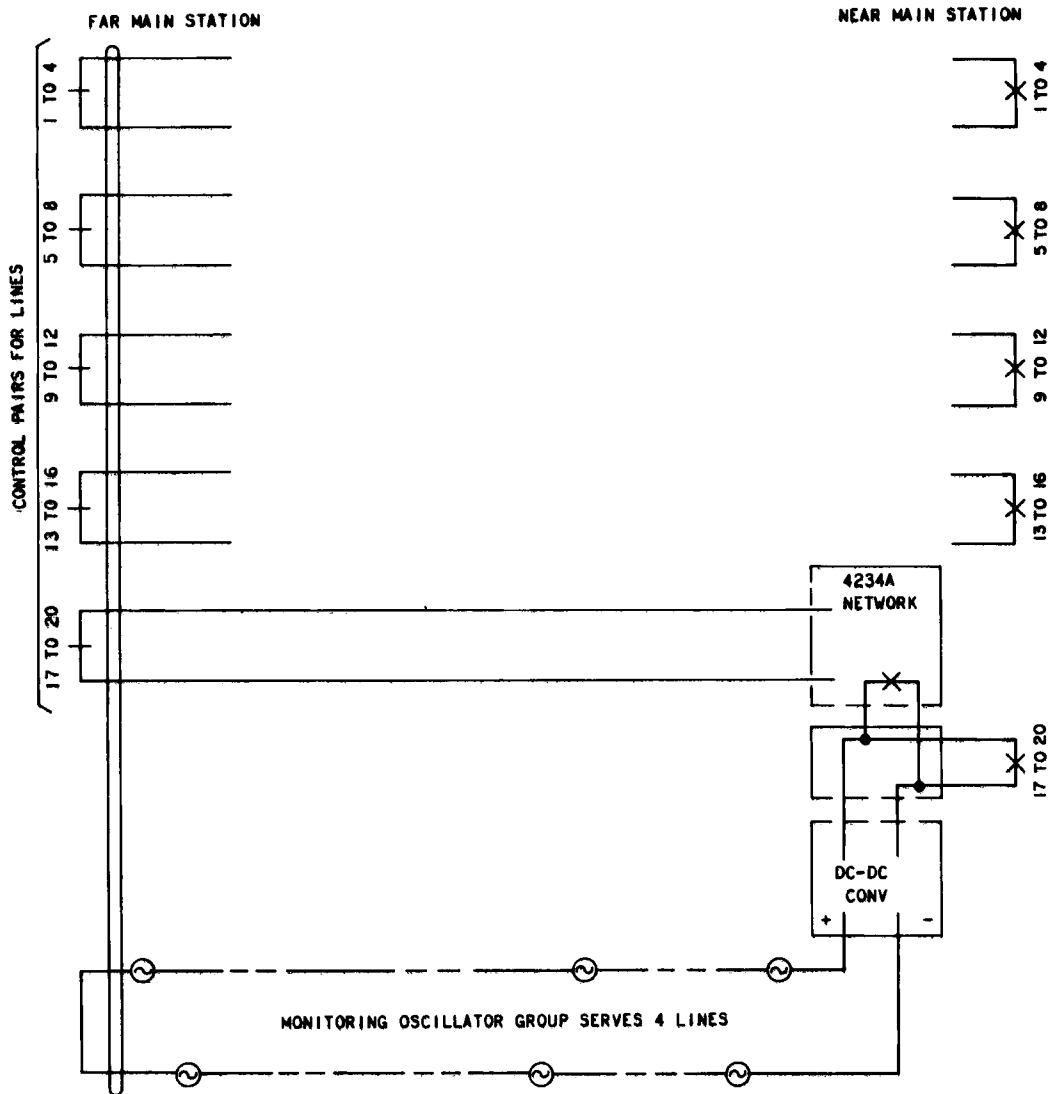

Fig. 4—Monitoring Oscillator Control
3.01 A monitoring oscillator is associated with each repeater. Monitoring oscillators are powered, in groups, from the main stations by direct current sent over insulated pairs in the cable (Fig. 4). A group may contain up to 21 oscillators which operate at frequencies 3 kHz apart from 18.500 to 18.560 MHz.
3.04 For an L4S system long enough to require *two* groups of monitoring oscillators to serve all the repeaters in a line, another arrangement similar to that shown in Fig. 4 is provided. For this arrangement, the *near* and *far* main station designations are the reverse of those shown in Fig. 4.